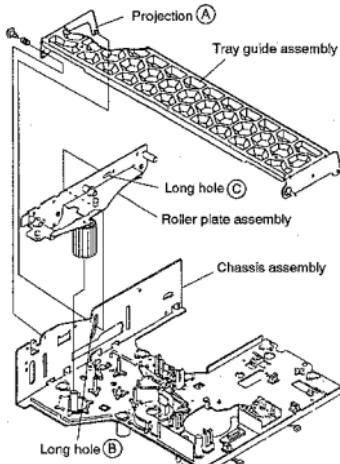

Fig. 15
- ① Install the tray guide assembly in the position where projection Ⓐ of the tray guide assembly fits into the long hole Ⓑ of the chassis assembly and the long hole Ⓒ of the roller plate assembly. (Fig.15)